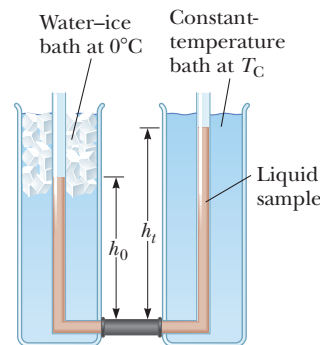

Figure P19.62
- 62.** The measurement of the average coefficient of volume expansion  $\beta$  for a liquid is complicated because the container also changes size with temperature. Figure P19.62 shows a simple means for measuring  $\beta$  despite the expansion of the container. With this apparatus, one arm of a U-tube is maintained at  $0^\circ\text{C}$  in a water-ice bath, and the other arm is maintained at a different temperature  $T_C$  in a constant-temperature bath. The connecting tube is horizontal. A difference in the length or diameter of the tube between the two arms of the U-tube has no effect on the pressure balance at the bottom of the tube because the pressure depends only on the depth of the liquid. Derive an expression for  $\beta$  for the liquid in terms of  $h_0$ ,  $h_t$ , and  $T_C$ .